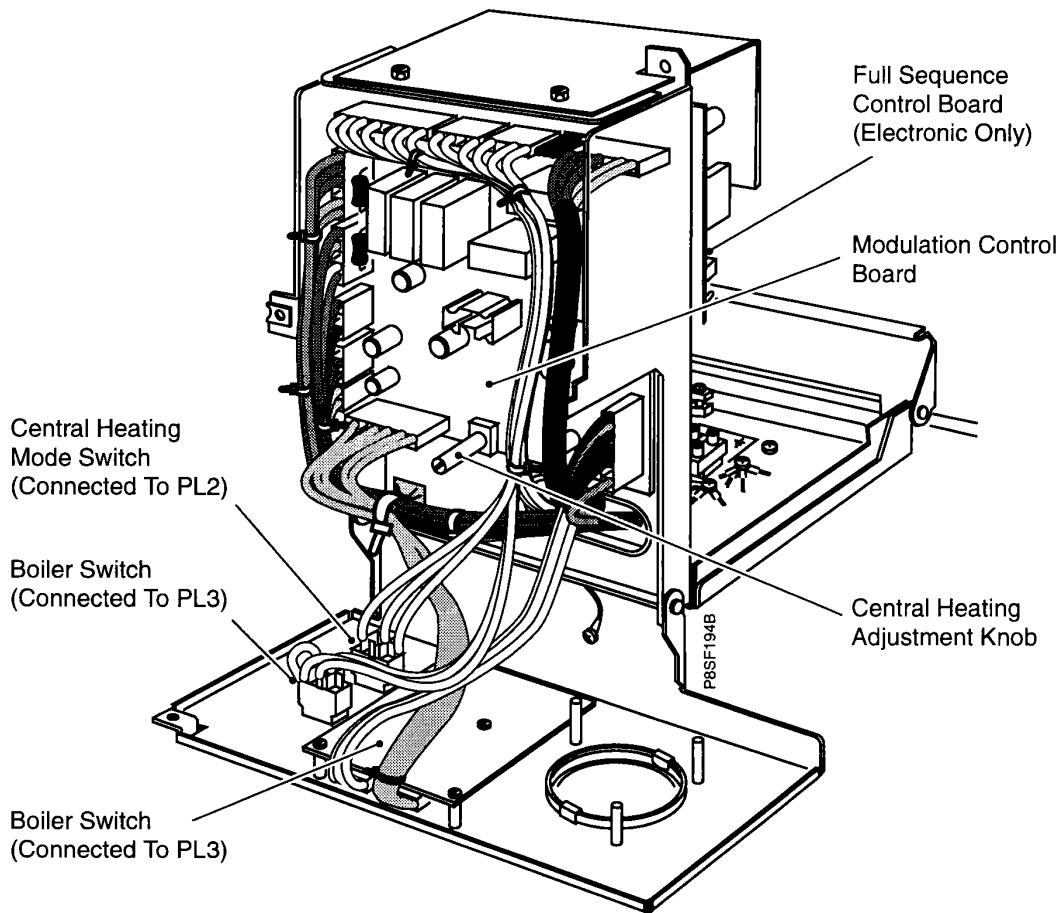

Fig 30
6.15 Electronic & Saver Control Boards (Fig. 30)